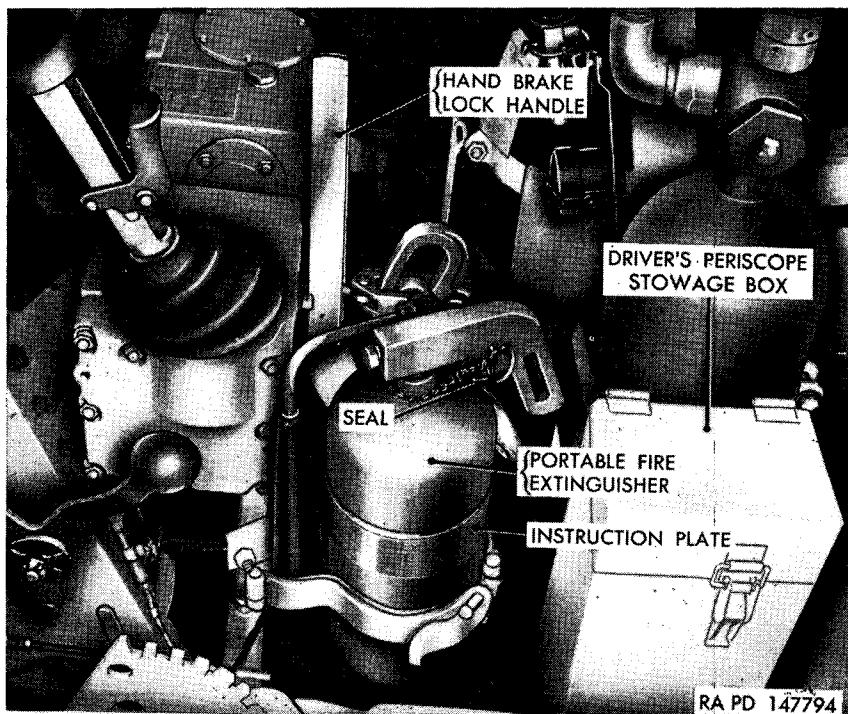

Figure 327. Portable fire extinguisher.
b. **PORTABLE SYSTEM.** Two portable fire extinguishers are provided for fires which may occur in the fighting compartment. Each is a 5-pound cylinder filled with carbon dioxide (CO₂) and equipped with discharge horn and actuating trigger. One is located in the driver's compartment (fig. 327). The other is mounted on the turret bulge below the periscope storage.
a. REMOVAL (fig. 327). Release cylinder by opening mounting clamp and lift cylinder from mounting bracket.
c. **INSTALLATION** (fig. 327). Install cylinder in mounting bracket and secure by closing mounting clamp.